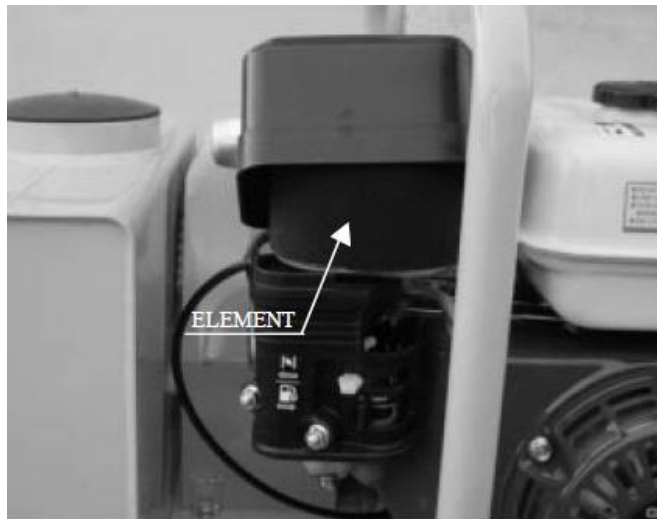

Figure 5-2
7. Check the air cleaner element (Figure 5-2) to ensure it is not dirty or damaged.